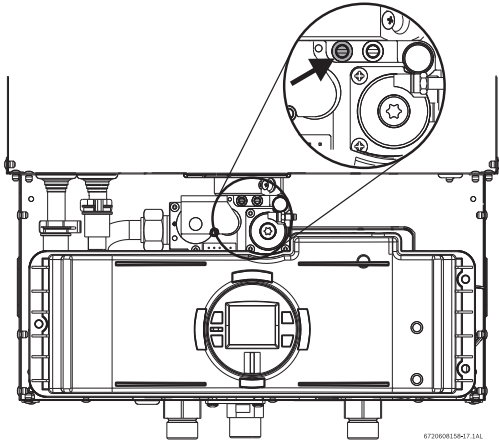

Fig. 41 Gas pressure test port (left tapping)
- ▶ Remove front cover and locate inlet gas pressure test port (see Fig. 41).